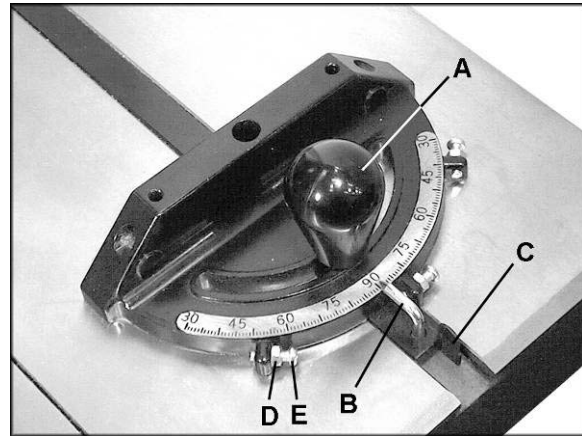

Figure 22
A miter gauge is provided for crosscutting operations. Install the miter gauge by sliding the end of the miter gauge bar into the T-slot in the table, as shown in Figure 22.
1. Loosen the handle (A, Figure 22).
2. Rotate the gauge body until the pointer (B, Figure 22) lines up with the desired angle on the scale. You may have to pivot the stop (C, Figure 22) out of the way to allow the body to rotate.
3. Tighten the handle (A, Figure 22).
4. There are three stops – at 90° and 45° left and right. Each of these can be adjusted by loosening the hex nut (D, Figure 22) and turning the screw (E, Figure 22) as needed. Re-tighten the hex nut (D, Figure 22) when adjustment is finished.
5. Make sure the stop (C, Figure 22) is flipped back into place.